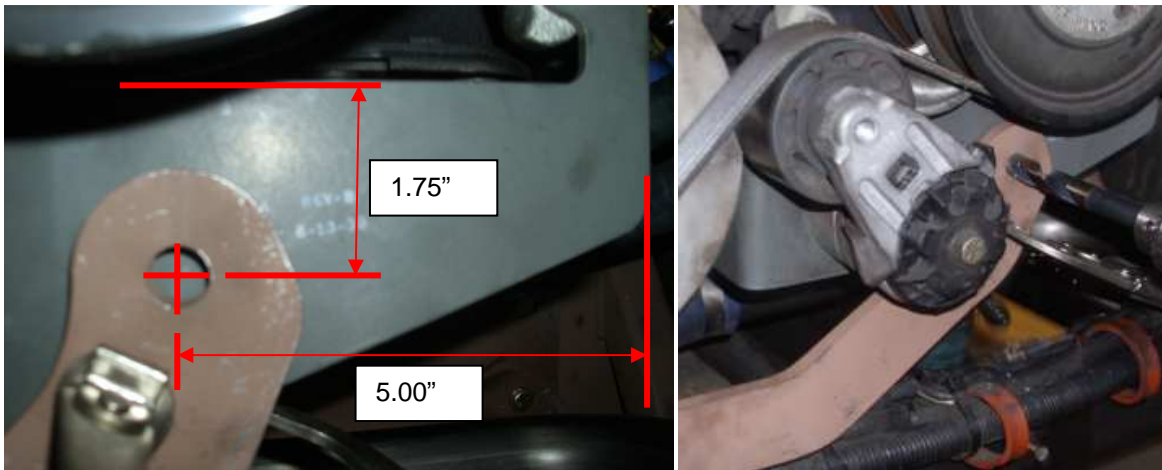
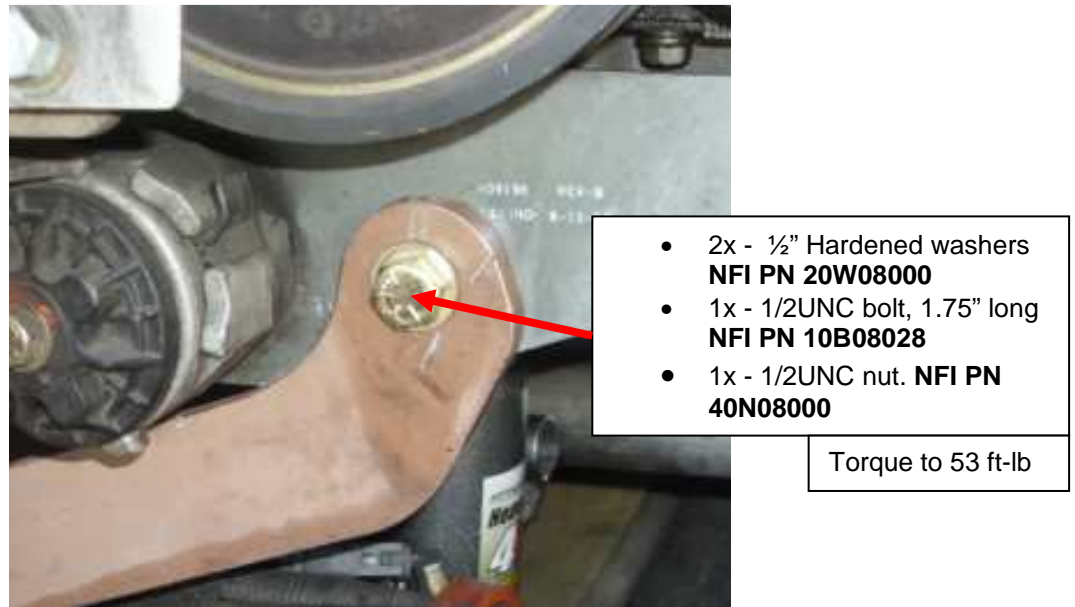

Figure 32: New Alternator Bracket Mounting
Figure 33: New Alternator Bracket Hardware
- b. Using the bracket as a template, drill a 9/16" diameter hole at the location shown in Fig 32. Install **NFI PN 20W08000**, **10B08028**, and **40N08000** per Fig 33 and torque to 53 ft-lb. Use Never Seize **NFI PN 5928660**.